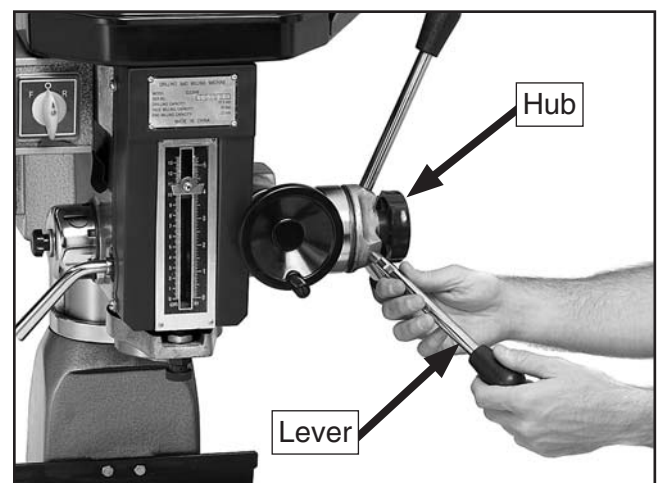

Figure 13. Feed levers.
2. Screw the levers with knobs into the threaded holes on the hub, located on the right side of the machine (**Figure 13**).